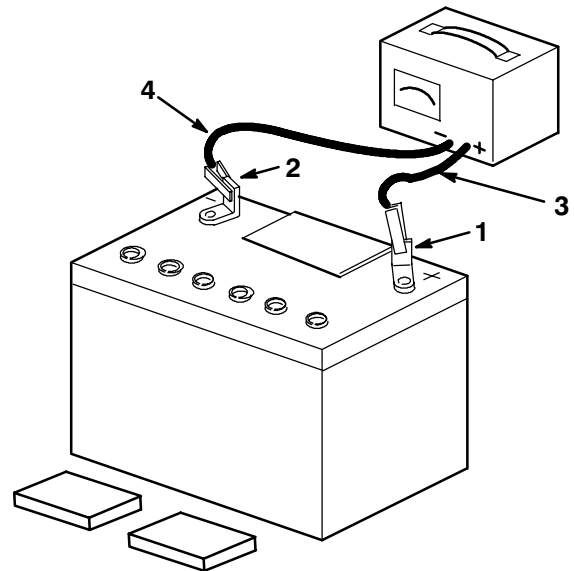

Figure 11
3. Leave the filler caps off and connect a 3-4 amp battery charger to the battery posts (Fig. 11). Charge the battery at a rate of 4 amperes or less for 4 hours (12 volts).
4. When the battery is fully charged, unplug the charger from electrical outlet, then disconnect the charger leads from the battery posts (Fig. 11).